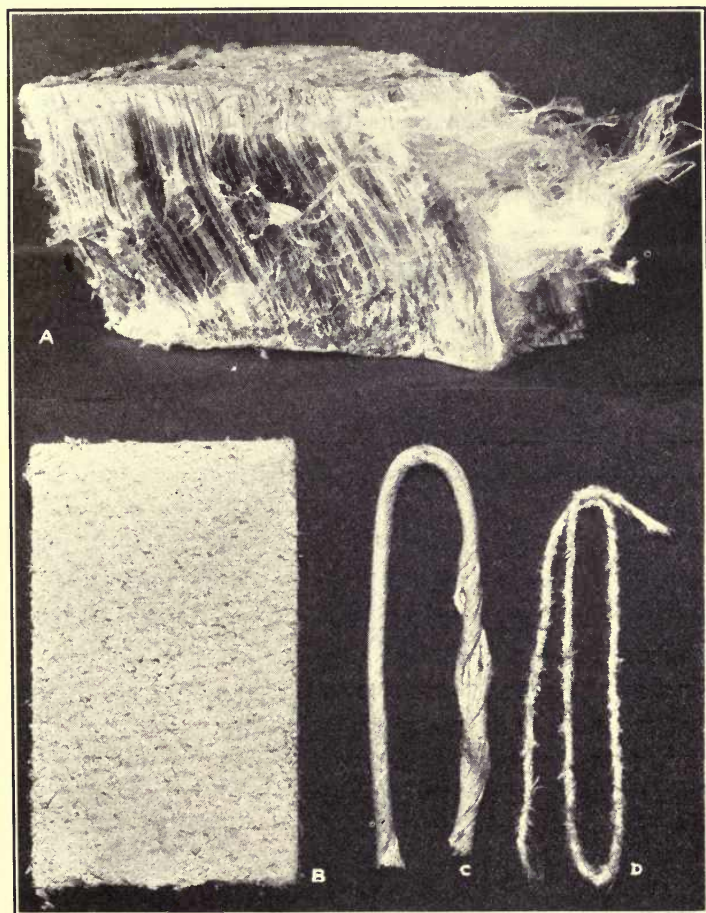

FIG. 111. — Asbestos; *A*, native mineral; *B*, cloth; *C*, cord; *D*, strand of fibers used in weaving cloth.
**Asbestos and glass fiber.** Outside of these two main classes, we have such fibers as asbestos. This is a mineral that occurs in long white or greenish white fibers. These are very fine, but possess little cohesiveness, and are brittle. It is therefore difficult to make a fine asbestos thread. The fibers can, however, be woven into cloth, and will felt together into a paperlike sheet (Fig. 111).